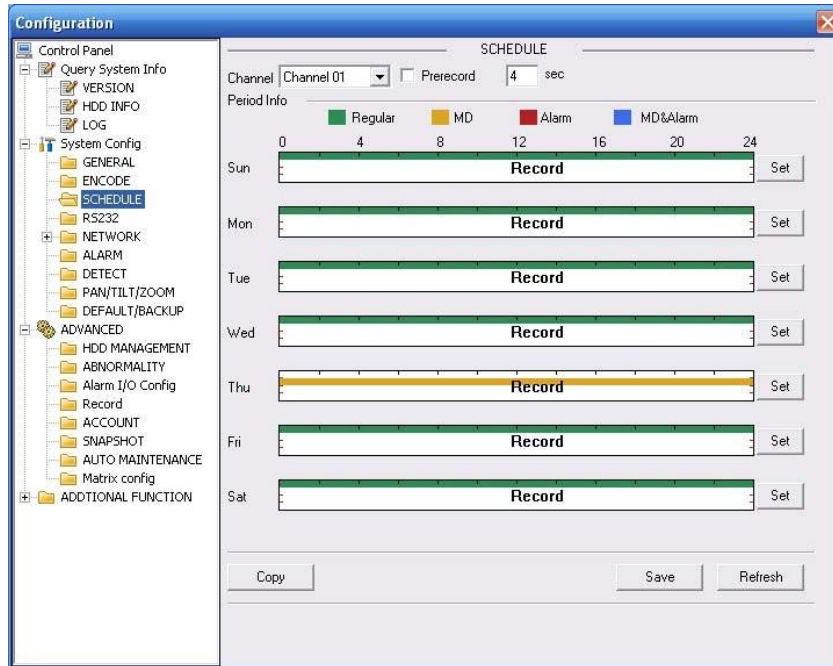

Figure 7-29
Here you can set different periods for various days. There are max six periods in one day. See Figure 7-29.
- # In Figure 7-29, click set button, you can go to the corresponding setup interface.
Parameter	Function and alarm/snapshot. # Please select date (Current setup applies to current day by default. You can draw a circle before the week to apply the setup to the whole week.) # After complete setup, please go back to Figure 7-29 . and then click save to save current time period setup.